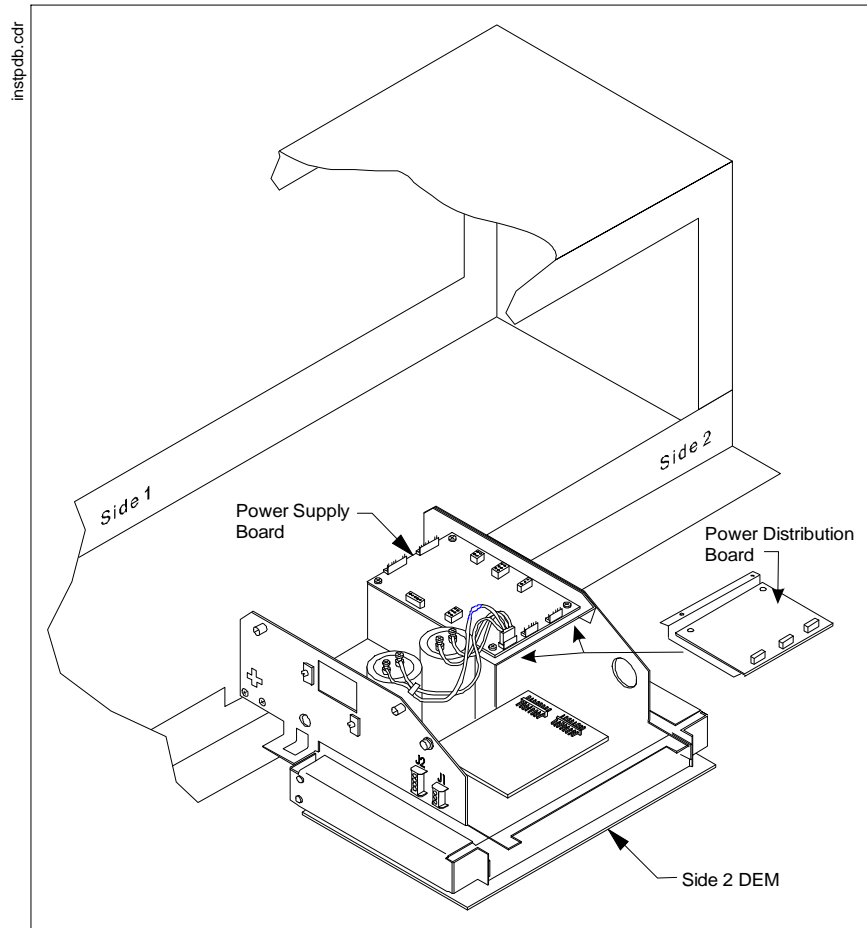

Figure 2-7 Installing the Power Distribution Board (PDB)
3. Install the PDB (PN 886038-001) and secure with hardware provided. See Figure 2-7.